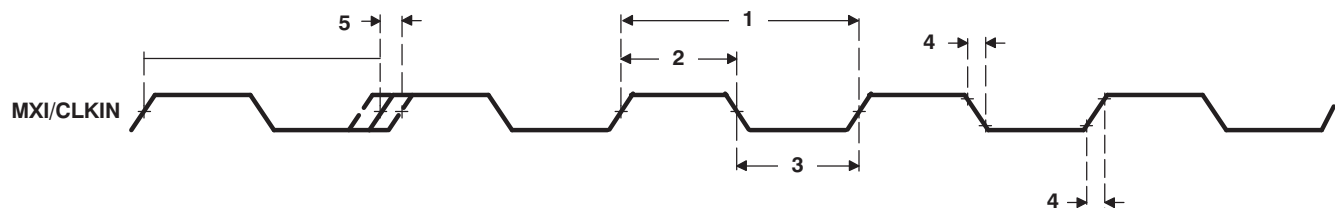

Figure 5-7. MXI1/CLKIN1 Timing
Table 5-5. Timing Requirements for MXI1/CLKIN1^{(1) (2)} (see Figure 5-7)
Table 5-6. Timing Requirements for MXI2/CLKIN2^{(1) (2)} (see Figure 5-7)